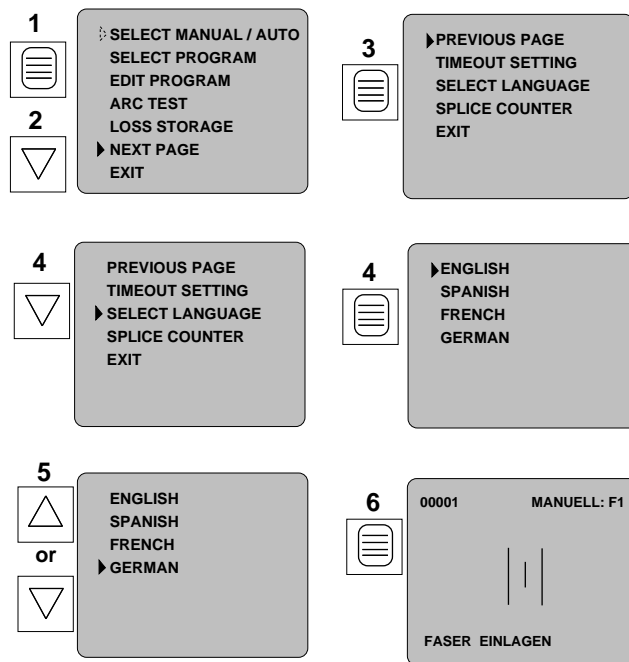

Figure 69
6.12 The CFS II now offers four language choices: English, Spanish, French, and German. To change languages (Figure 69):